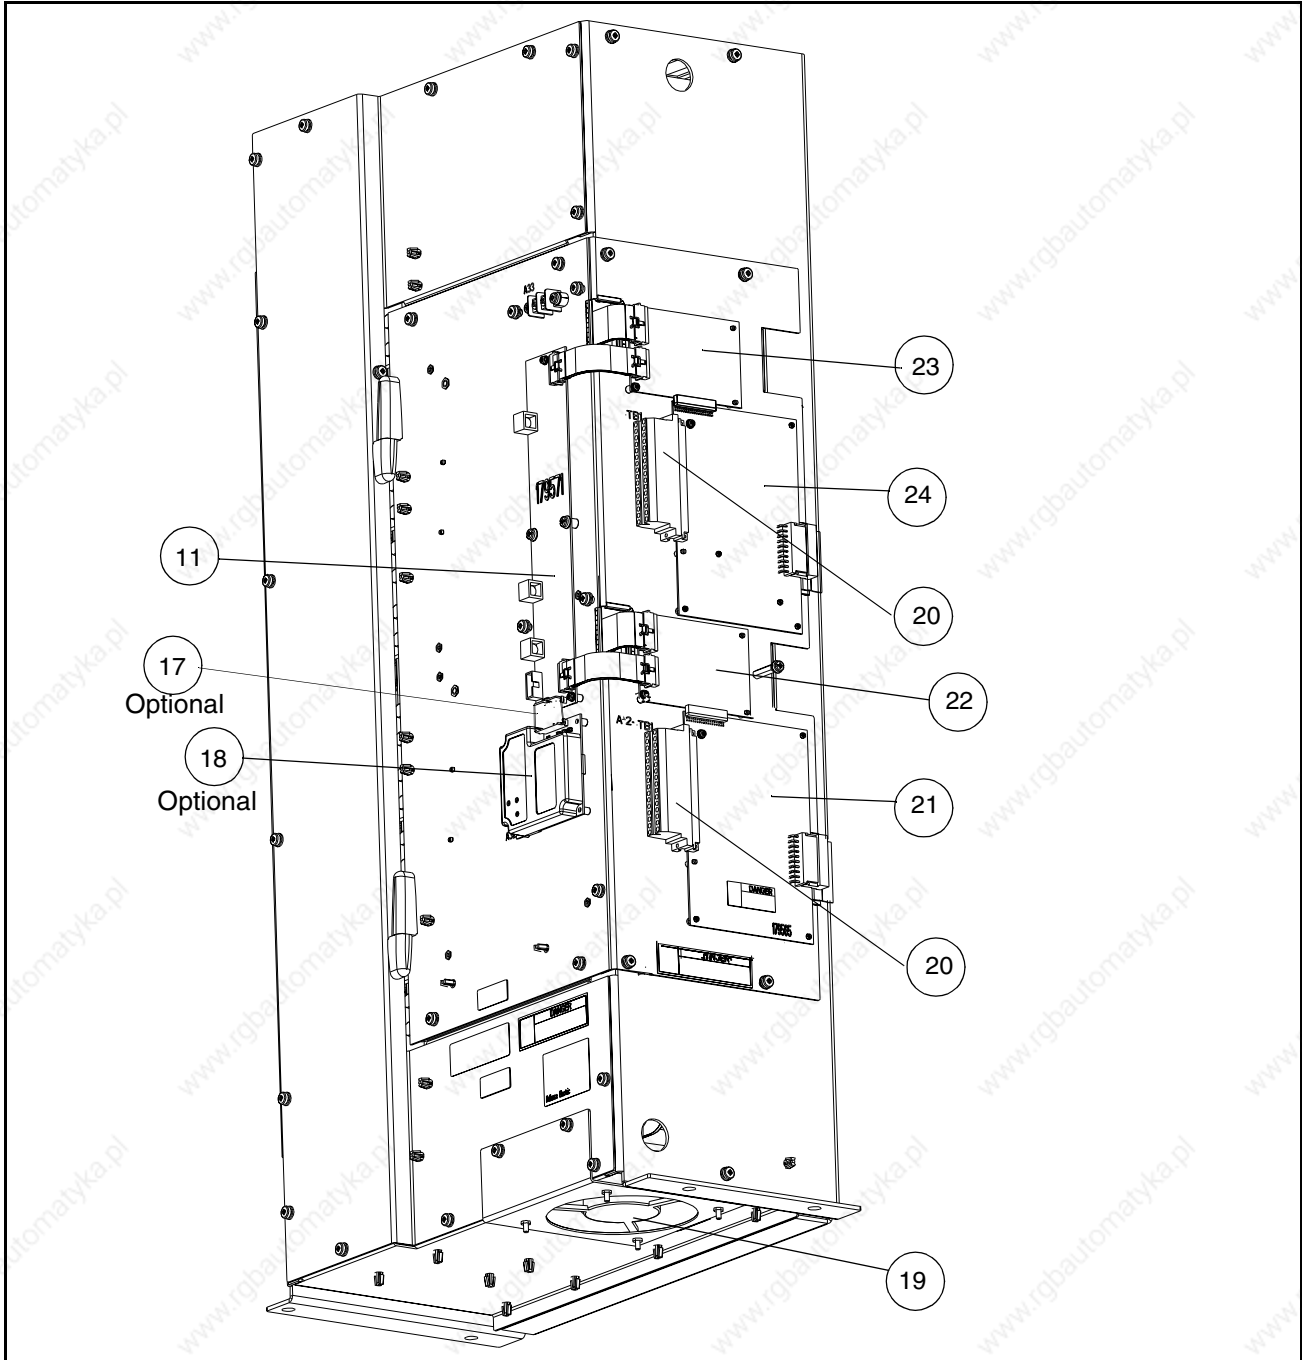
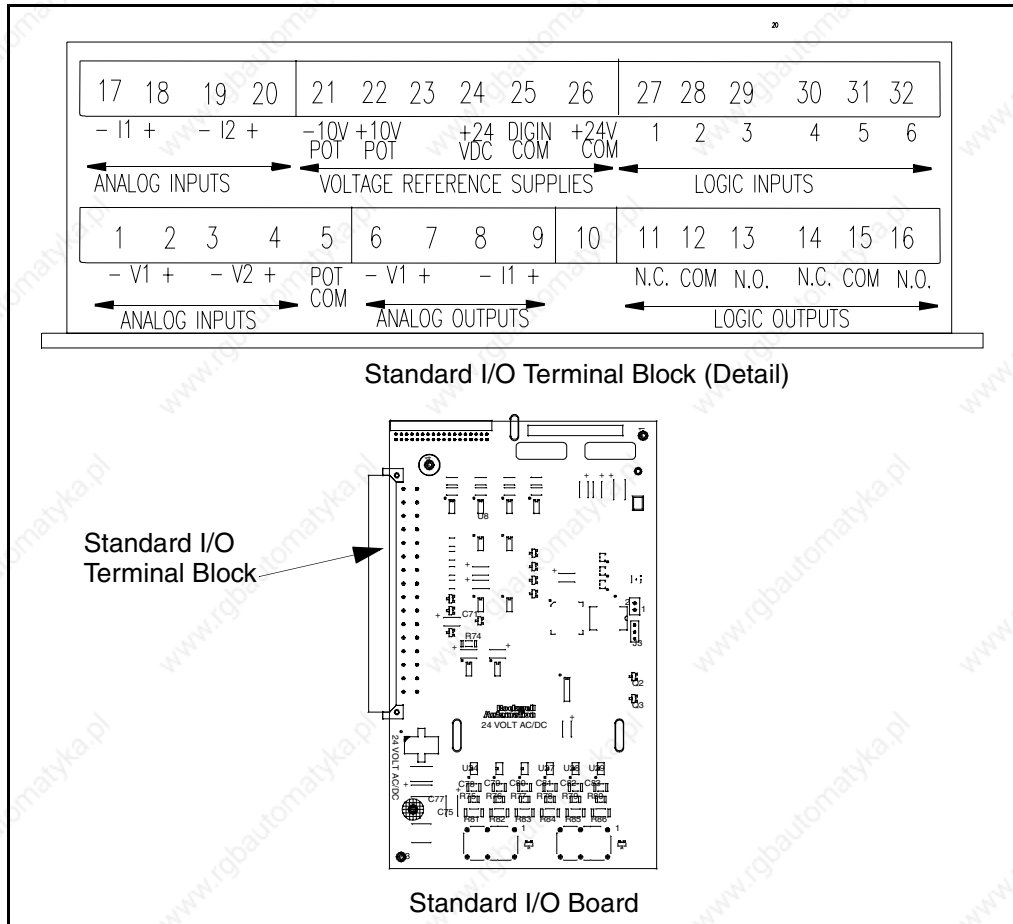

Figure 2.5 – Power Module Component Locations - Door Closed (Frame 3)
Figure 2.10 – Standard I/O Board
The following signals are available at the Standard I/O board terminal block. The Standard I/O board is labeled as item 24 in figure 2.5. Refer to figure 2.10 for terminal identification.